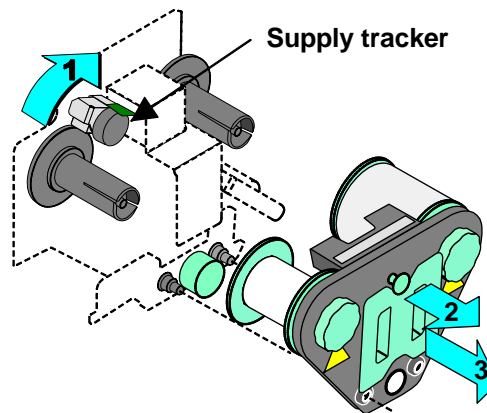

Figure 2-10: Remove the supply cartridge
- 2 Lift the supply tracker, and then push until it clicks into place (step 1 in Figure 2-10).
- 3 Pull out on the cartridge lock to release the supply cartridge (step 2 in Figure 2-10).
- 4 Pull the supply cartridge out until the cartridge is out of the printer (step 3 in Figure 2-10).
- i** Make sure the supply tracker is raised and out of the way. See Figure 2-10.